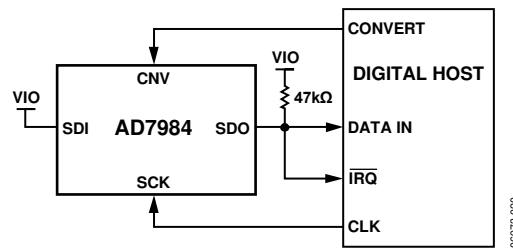
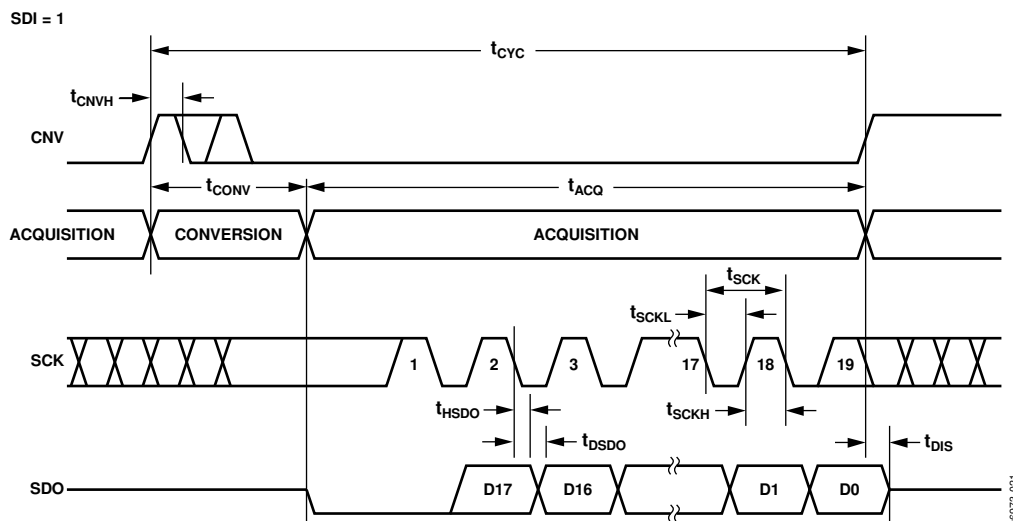
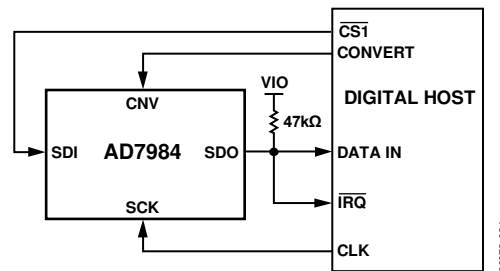
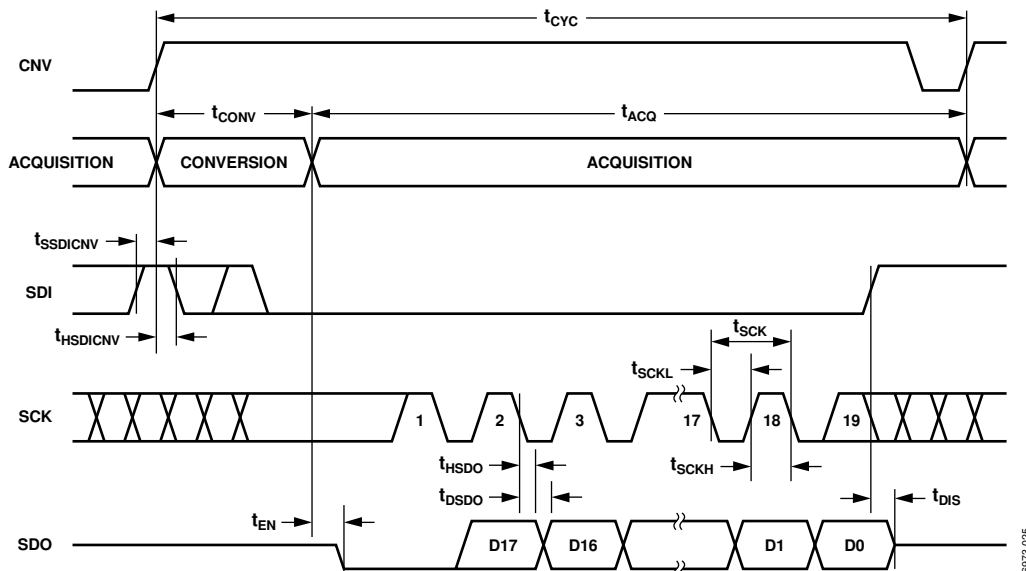

Figure 30. \overline{CS} Mode, 3-Wire with Busy Indicator Connection Diagram (SDI High)
Figure 31. \overline{CS} Mode, 3-Wire with Busy Indicator Serial Interface Timing (SDI High)
Figure 34. $\overline{\text{CS}}$ Mode, 4-Wire with Busy Indicator Connection Diagram
Figure 35. $\overline{\text{CS}}$ Mode, 4-Wire with Busy Indicator Serial Interface Timing
- In $\overline{\text{CS}}$ mode if CNV or SDI is low when the ADC conversion ends (see Figure 31 and Figure 35).
The connection diagram is shown in Figure 30, and the corresponding timing is given in Figure 31.
The connection diagram is shown in Figure 34, and the corresponding timing is given in Figure 35.